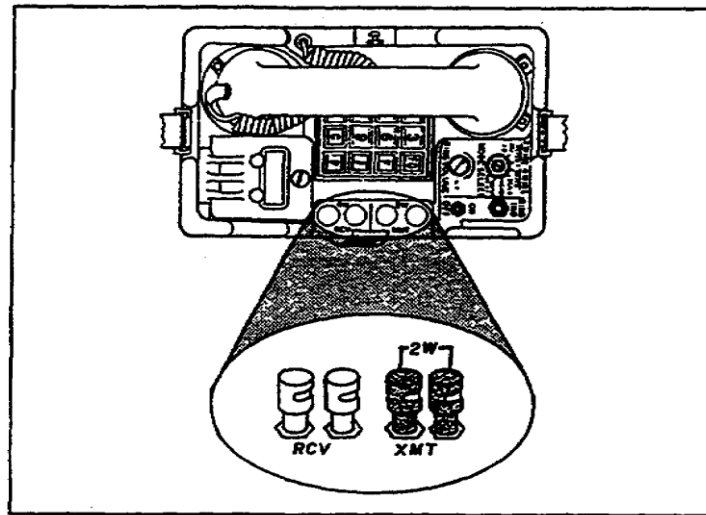

Figure 1-8. Binding posts.
a. Binding posts. The two XMIT binding posts are color-coded black and marked with 2W. The two RCV binding posts are color-coded red. (See Figure 1-8.)